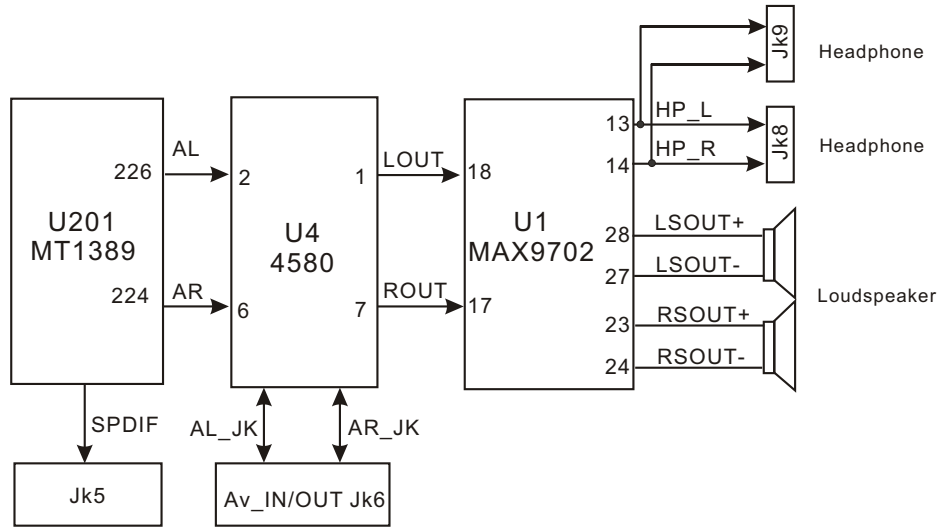

Figure 3.2.7.1 Audio output circuit block diagram
1. Audio output circuit block diagram is shown as in the following figure 3.2.7.1:
Headphone and loudspeaker output mode switch is realized by U1 MAX9702. Shown in the figure 3.2.7.2r, U1 switched headphone output through detecting high or low level of pin 20 HPS. When JK8 and JK9 have no headphone inserted to the jack, Diode D4, D5 are in cut-off state, triode Q6 cuts off, Q1 is connected to pull HPS down to ground, MAX9702 outputs audio signals to loudspeaker. When one of JK8 or Jk9 inserts into headphone jack, grounding cuts and becomes high level. Only one of diode D4 and D5 is connected, Q6 collector electrode becomes high level and then is saturated on, Q1 collector electrode level pulls down to cut off, HPS voltage is 5V high level, MAX9702 switched to headphone output state.